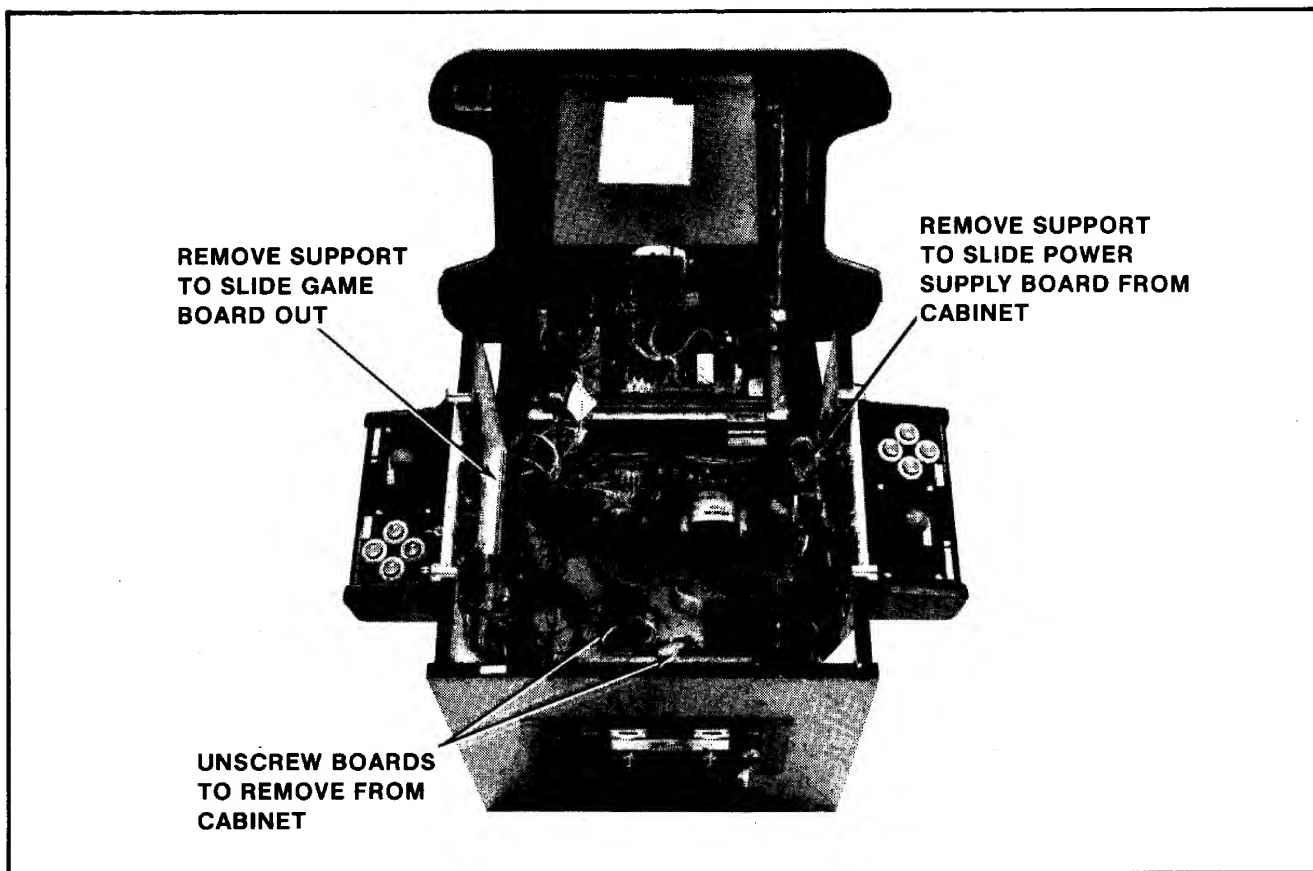

Figure 4-14 Removing P.C.B.s — Cocktail
3. COCKTAIL TABLE MODEL: See Figure 4-14.
- ☐ To remove the power supply board. See Figure 4-14.
- ☐ To remove the game and Sound boards. See Figure 4-14.